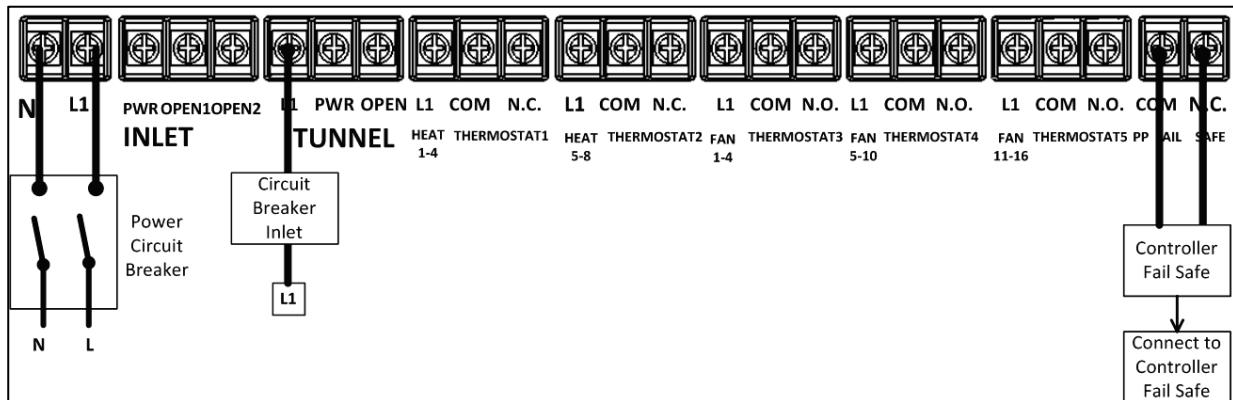

Figure 4: Relay Connections to Controller – Section 3
4. Figure 4 illustrates which potentiometer controls the delay for the different stages.
1. Connect the equipment according to the tags written on the PCB. Figure 4 displays some of the connections.
Figure 4 presents a view of the card divided into the following main sub-units: